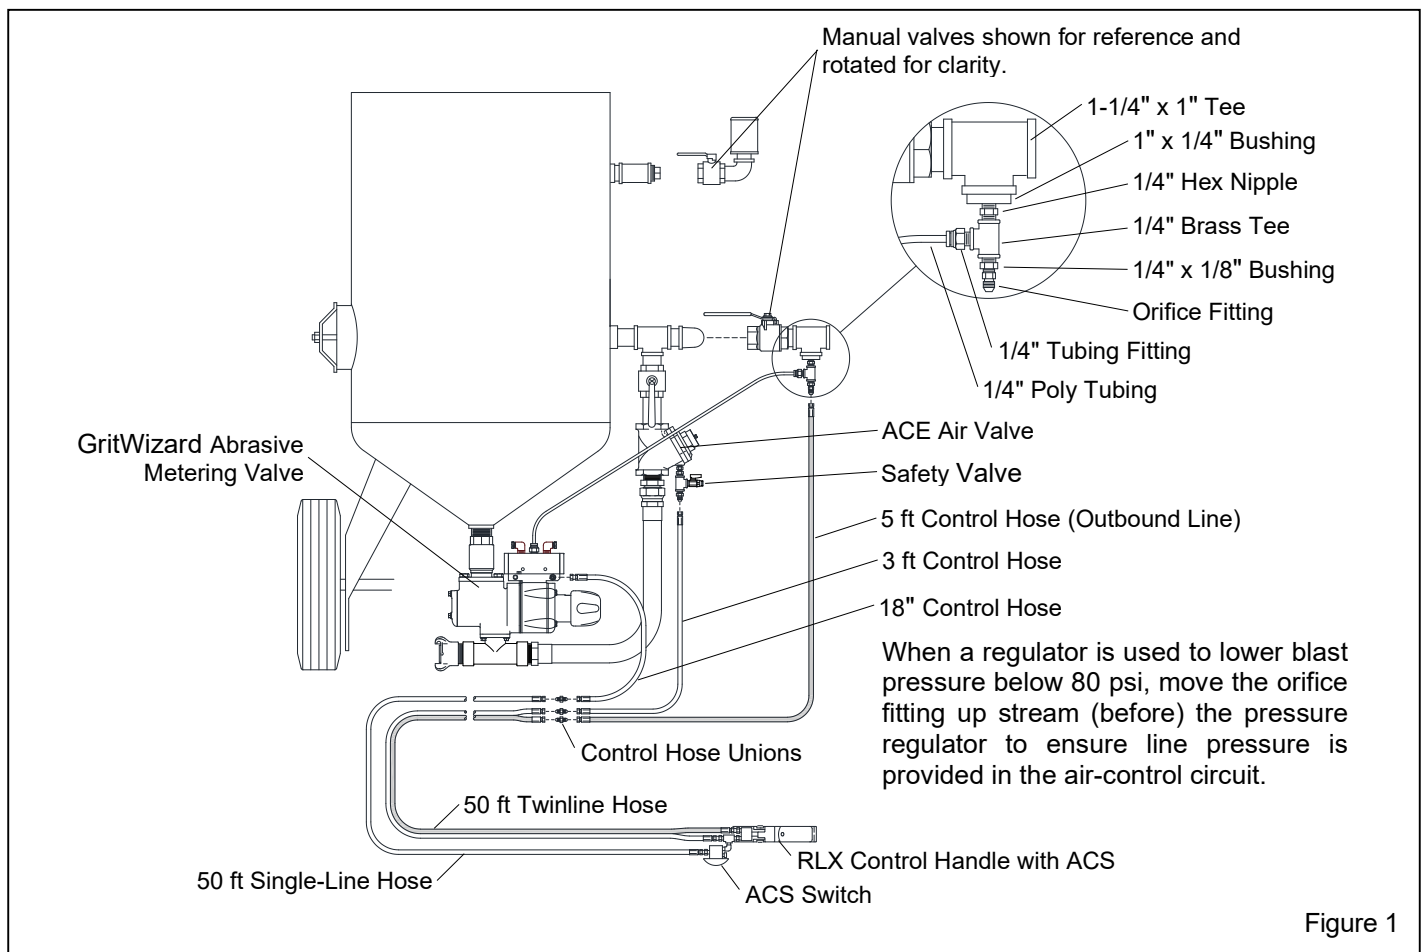

Figure 1
1.4.1 The key components of the GritWizard pneumatic remote control system are shown in Figure 1. They include the GritWizard™ Abrasive Metering Valve, ACE Air Valve, RLX Control Handle with abrasive cut-off
**1.6.4** GritWizard remote controls operate pneumatically on the return-air principle; refer to Figure 1. When the machine is manually pressurized, control air travels from the orifice fitting, down the outbound twinline and escapes through an opening located under the control handle lever. As long as air escapes through the opening, the remote control system remains inactive (no blasting). When the operator applies pressure to the control handle, a rubber button seals the opening
**1.6.5** Abrasive cutoff switch (ACS): An abrasive cut-off switch (ACS) is a standard feature of the GritWizard Remote Controls. The abrasive cut-off switch is mounted on the control handle, as shown in Figure 1. The operator uses the switch to close the abrasive valve independently of the air valve, so air without abrasive exits the nozzle. This feature is used to clear abrasive from the blast hose or to blow-down the blasted surface. Refer to Section 3.5 for operation of the ACS.
Additional fittings may be required to connect the valve to some blast machines and piping configurations. Use 1-1/4-NPT Schedule 40 nipples, to connect the fittings, as shown in Figures 1 and 2.
If the remote control system was factory installed onto a new blast machine, confirm the control hose and tubing connections in Figure 1, then skip to Section 2.4.
**2.3.6** Assemble a manual outlet valve assembly, and install it as shown. NOTE: Clemco installs an exhaust muffler, Stock No. 05068, with all blast machines 1.5 cubic feet and larger. The muffler is not part of the remote control system. The muffler reduces exhaust noise and directs the exhaust downward, which prevents abrasive from exhausting into the air. When the blast machine depressurizes, the muffler body pops up and diffuse the escaping air and abrasive. When the machine is fully depressurized, the muffler body drops, permitting trapped abrasive to empty. For the muffler to work properly, it must be installed with the body facing up, as shown in Figures 1 and 2.
**2.3.11** Connect control hoses and tubing to the valves, as shown in Figure 1. Do not connect the 50 ft hoses at this time. **NOTE: 6 ft of tubing is provided, cut the tubing to fit.**
The fittings used in the tee assembly shown in Figure 1 must have a 1/16" orifice in the end that threads into the bushing. Never use fittings that do not have the 1/16" restricting orifice. Any other fitting will cause accidental actuation of the blast machine which can result in property damage, injury, or death.